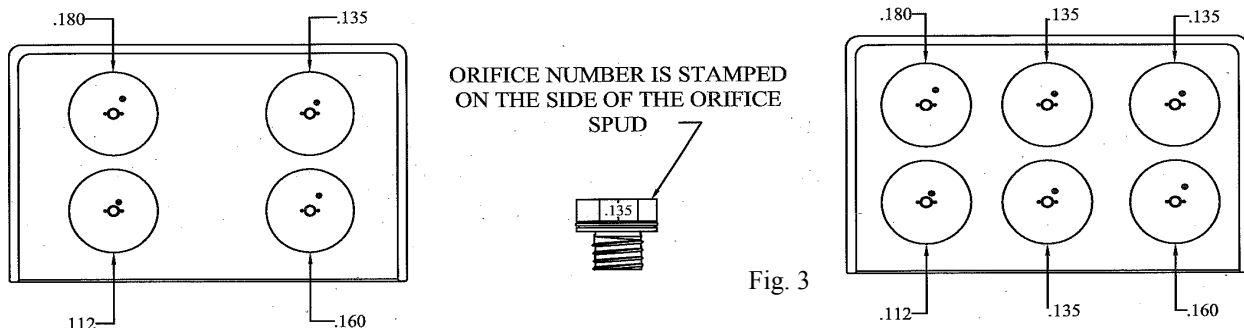

Fig. 3
- Use the description to identify the proper orifice for the proper size burner. See Fig. 3